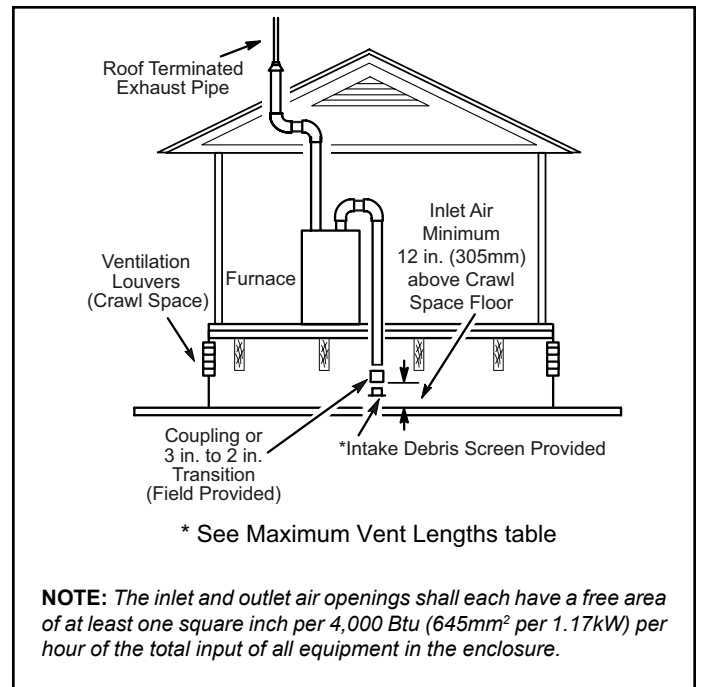
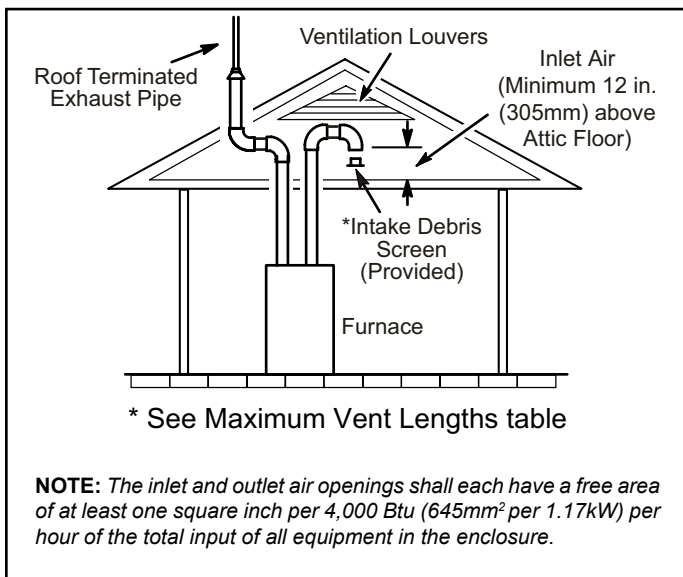

Figure 27. Equipment in Confined Space (Inlet Air from Ventilating Crawlspace and Outlet Air to Outside)
Figure 26. Equipment in Confined Space (Inlet Air from Ventilating Attic and Outlet Air to Outside)
2. If intake air is drawn from a ventilated attic (Figure 26) or ventilated crawlspace (Figure 27) the exhaust vent length must not exceed those listed in Table 7B. If 3" diameter pipe is used, reduce to 2" diameter pipe at the termination point to accommodate the debris screen.